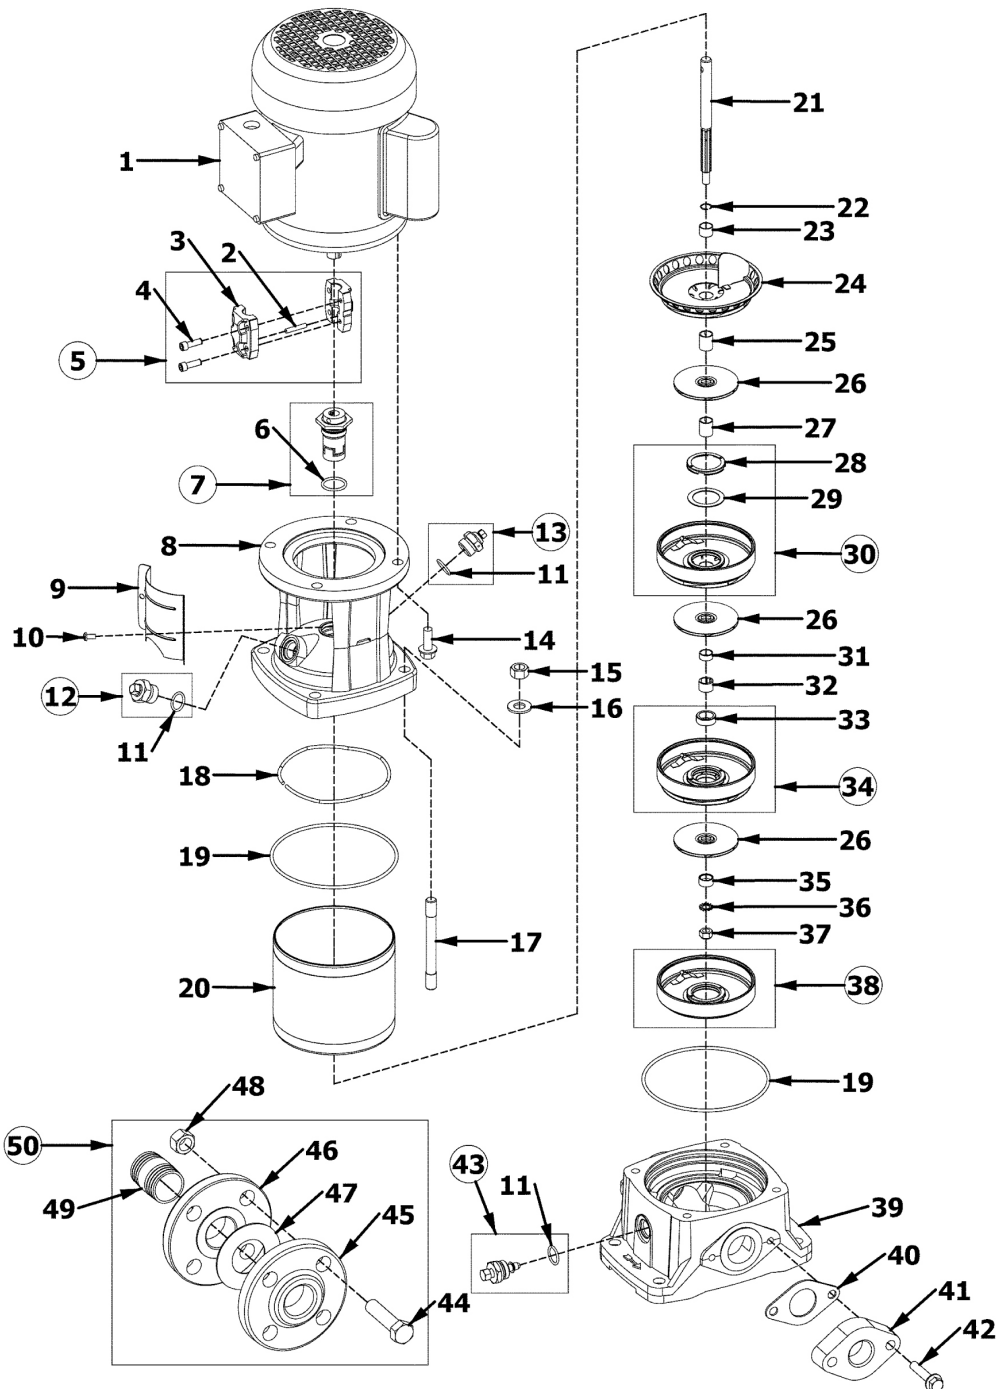

Figure 6 - Repair Parts Illustrations
5. Reassemble Impellers (Ref. No 26), Crossovers (Ref. No. 34), etc. onto pump Shaft (Ref. No. 21) in same order they were removed (see Figure 6 & 7) and torque Hex Nut w/Nyloc (Ref. No. 37) to 13 ft-lbs [18 N-m]